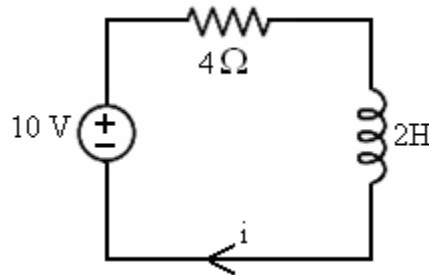

Figure. 1
- 1.a) Determine the current  $i$  for  $t \geq 0$  if initial current  $i(0) = 1$  for the below circuit (Figure. 1).